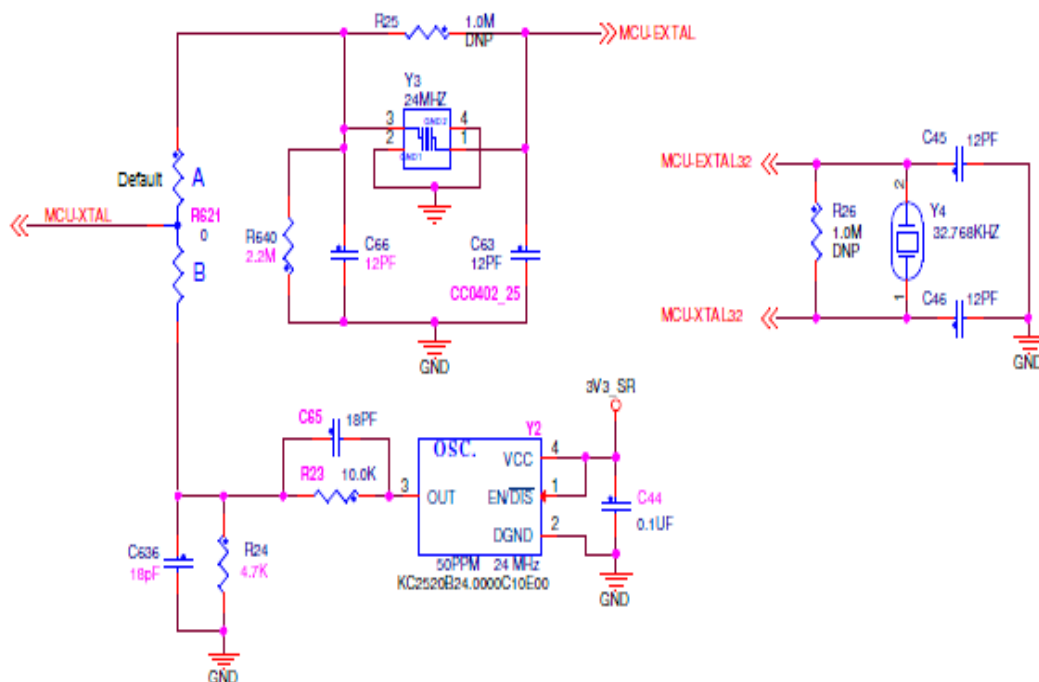

Figure 10. On-board clock options
- Optional external oscillator (Y2), and Figure 10 demonstrates how its 3.3V-rated output is connected to a 1.1V-rated MCU input for applications requiring a high-quality clock source.